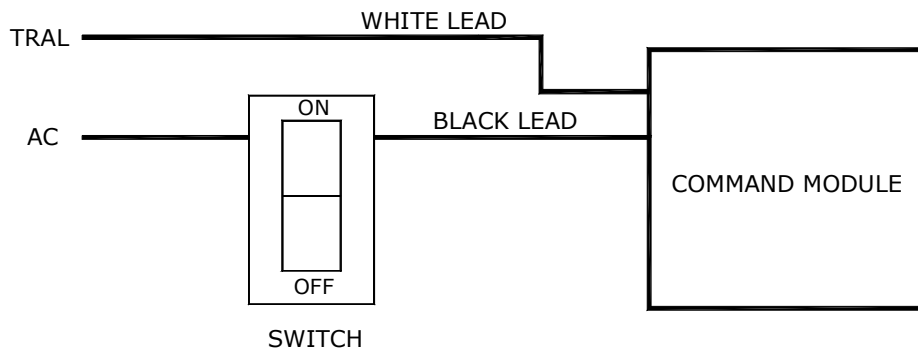

Figure 16
22. Locate the power cable coming from the back wall of the Command Module. **Connect the power cable to a 110 volt outlet that is switched on/off by a conveniently located wall mount switch that will operate only the Ambiance system.** See **figure 16**. Due to the variety of switches, refer to the instructions of the switch to ensure proper wiring. Make sure that the Command Module is the only device ran by the power switch. The Moodlight Power Supply *may* also be connected to the switched outlet.